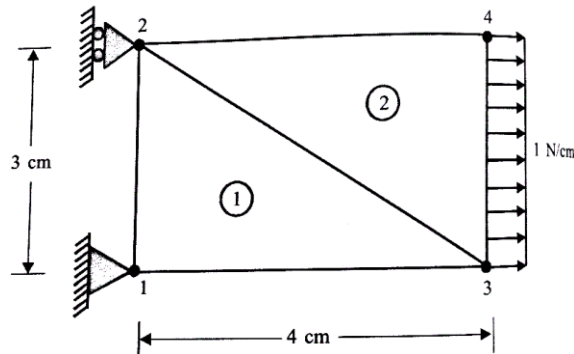

Figure 5
5. Determine the deflection of a thin plate subjected to extensional loads as shown in figure 5. [15]